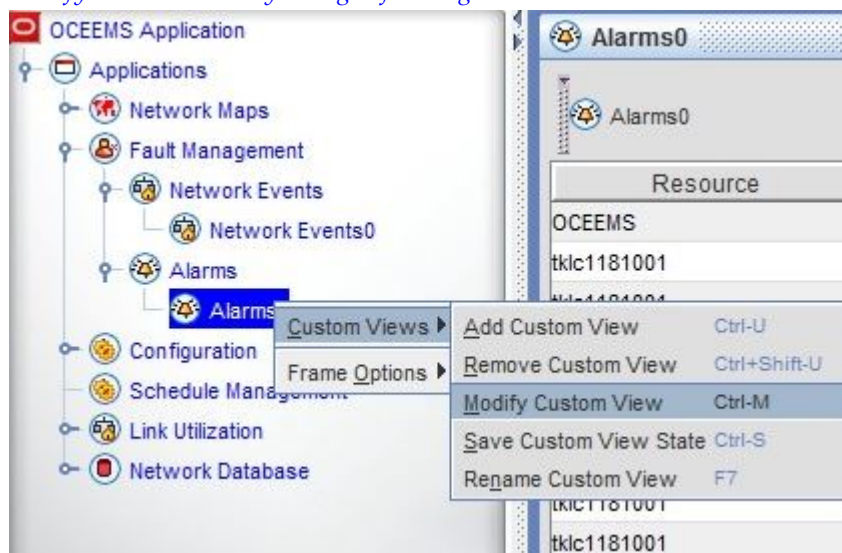

Figure 193: Modify Custom View By Using Left Navigation Pane
- Right-click on the custom view node under the Network Events or Alarms node in the left navigation pane, and choose **Custom Views > Modify Custom View** as shown in Figure 193: Modify Custom View By Using Left Navigation Pane.